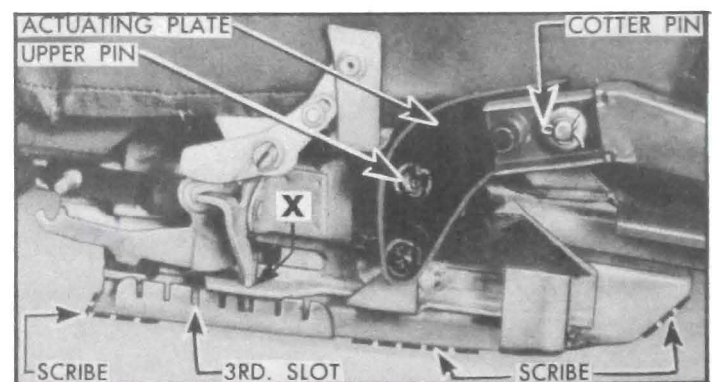

Figure 13-2—Seat Adjuster—Left Side
1. Remove seat side panel and remove the cotter pin and cup washer from seat back outer hinge pin. See figure 13-2. Note location of rubber washer.
2. On *manual type*, lock both seat adjusters in third locking slot from front. See figure 13-2.
On *hydraulic type*, align the slot "X" (fig. 13-2) in both adjusters with the third locking slot.
4. Scribe the location of both seat adjusters on body floor pan (fig. 13-2) before removing the four attaching bolts from each adjuster, then remove seat assembly from body.
3. Rotate seat adjuster actuating plate downward far enough to disengage the upper pin from the seat adjuster cam plate slot. See figure 13-2.